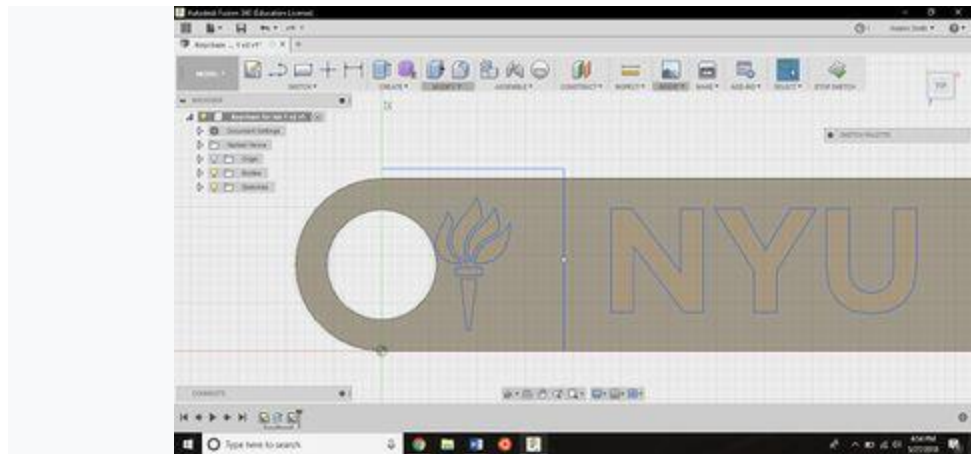

Figure 15: Partly Delete Box
- iii. Delete the bottom and the left side of the box. (Figure 15)